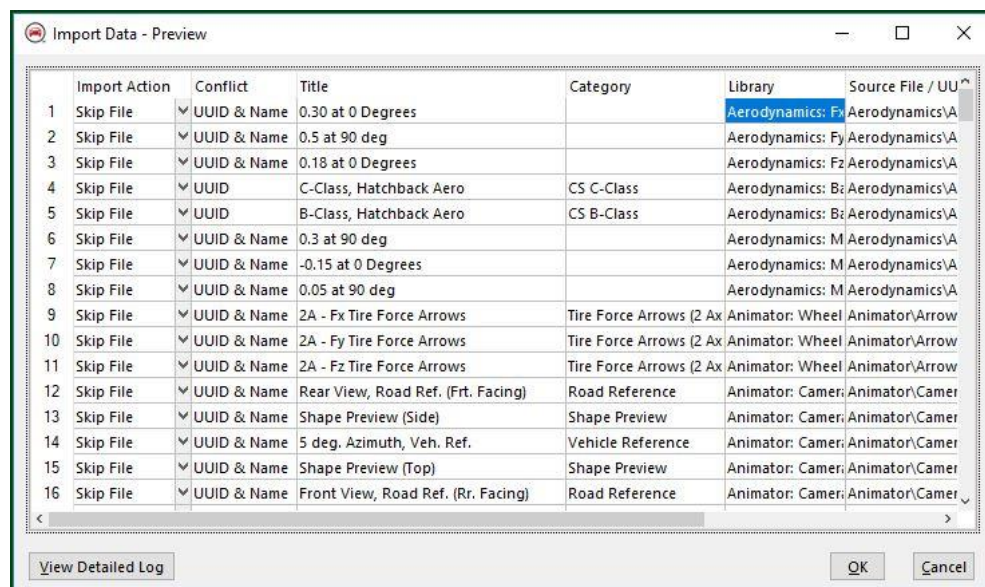

Figure 3. Import Data – Preview.
4. The **Import Data Preview** window will appear (Figure 3). Click **OK** to import the files.